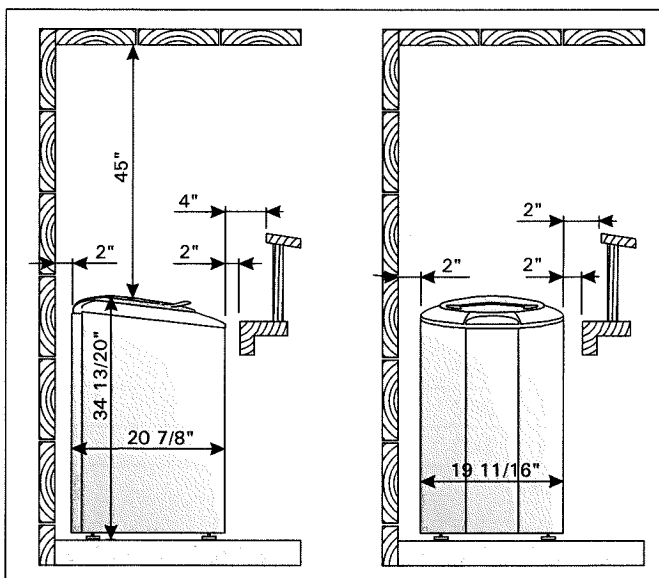

Figure 7. Minimum safety distances from the heater (inches)
requirements concerning safety distances given in fig. 7.
A safety railing must be built around the heater. The minimum distances given in figure 7 must be observed.
1. Remove heater from carton and place in proper location in sauna room. Observe proper clearances as per figures 7 and table 1. After final hookup, electrical contractor should secure heater to floor with at least two screws or bolts.